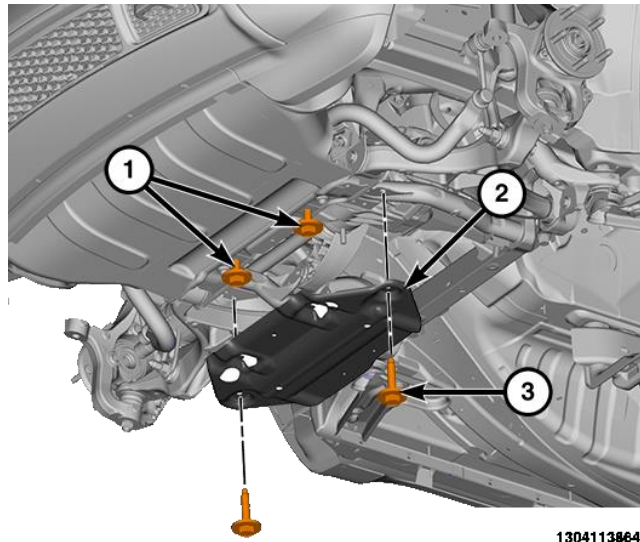

Figure 2 – Front Suspension Skid Plate
7. Loosen the front bolts (1) for the front suspension skid plate (if equipped) (Figure 2).
8. Remove the rear bolts (3) and remove the skid plate (2) (Figure 2).
9. Remove the front skid plate (2) (Figure 2).